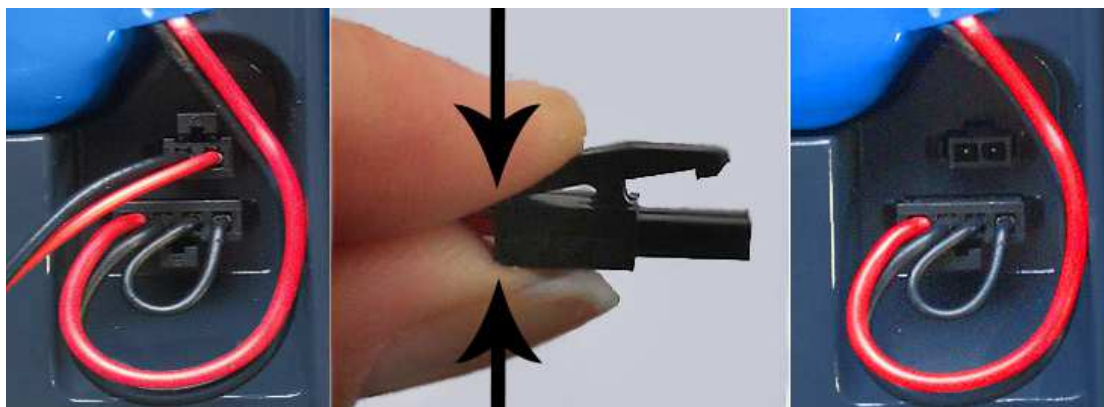

Fig. 2-21 – Disconnecting the snatch plug of the light source
- Disconnect the snatch plug of the light source (the upper one) by compressing the connector plug and pulling it out of the slot (see Fig. 2-21);
- Connect the snatch plug of the light source to the device by compressing the connector plug as shown in Fig. 2-21 and set it in the appropriate slot;